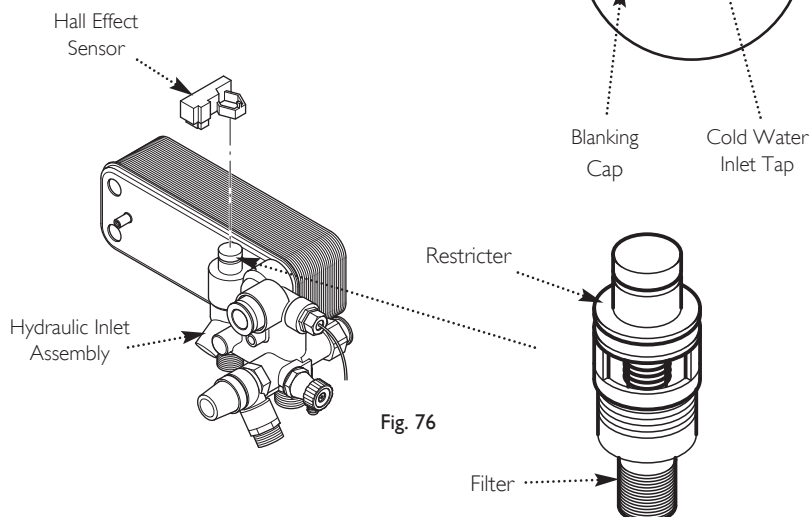

Fig. 76
17. Pull off the Hall Effect sensor. Undo the restrictor from the inlet/return manifold (Fig. 76).